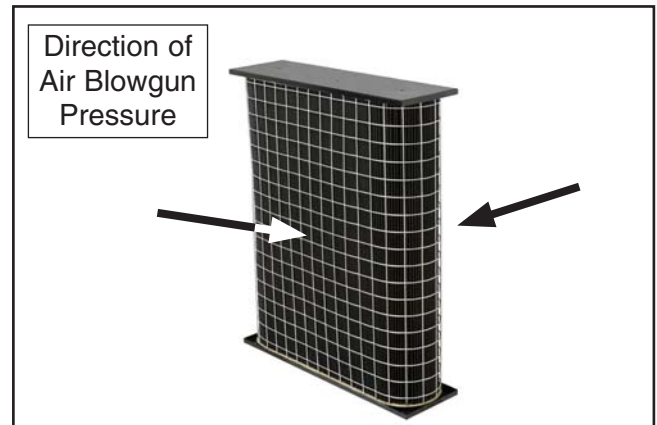

Figure 39. Vibrating filter element.
15. Hold a shop air gun or spray nozzle no closer than two to three feet from the filter element, and in a slow and sweeping motion, blow the remaining contaminants back out the direction they came (**Figure 39**). Be careful, however, if you get too close, the air pressure may blow a hole in the filter.